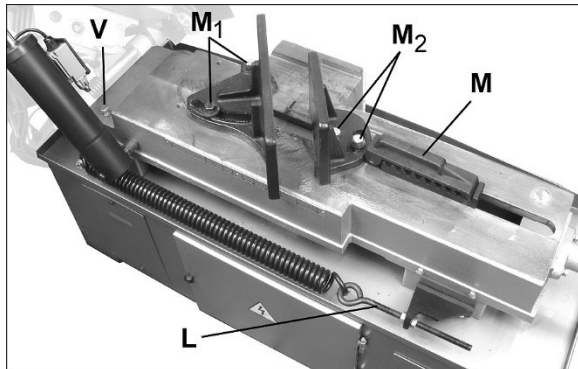

Figure 7-6: vise adjustments and limit switch
4. Adjust tension by loosening one nut on the C-bolt (L, Figure 7-6) and tightening the other. Tighten nut and retest the weight.
2. Lift rack block (M, Figure 7-6) and manually slide floating vise jaw in general proximity to workpiece. Let block fall to re-engage rack.
Adjustment is needed if blade continues to run *after* completion of cut, or blade shuts off *before* completion of cut. Loosen jam nut and turn stop screw (V, Figure 7-6) as required. Retighten jam nut.